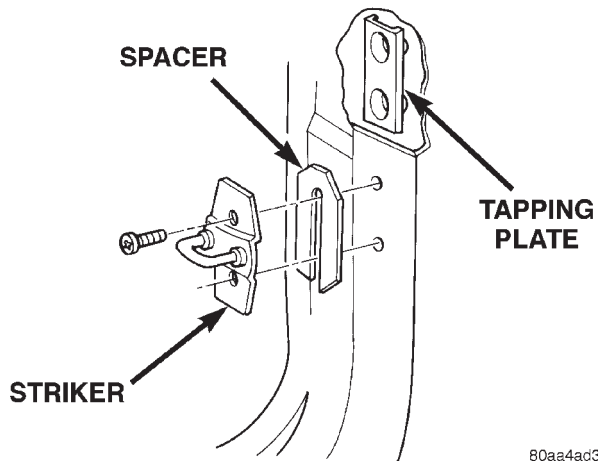

Fig. 32 Front Door Latch Striker
- (1) Using a grease pencil or equivalent, mark position of striker.
- (2) Remove screws attaching striker to B-pillar (Fig. 32).
- (3) Separate striker from B-pillar.